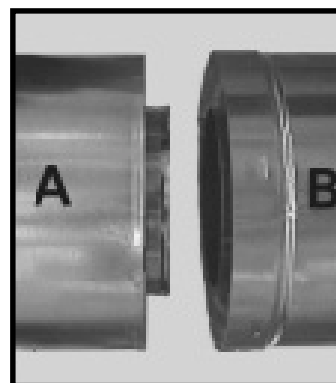

Figure 32
- Insert the outer flue of Section "A" into the outer flue of Section "B". See Figure 32.